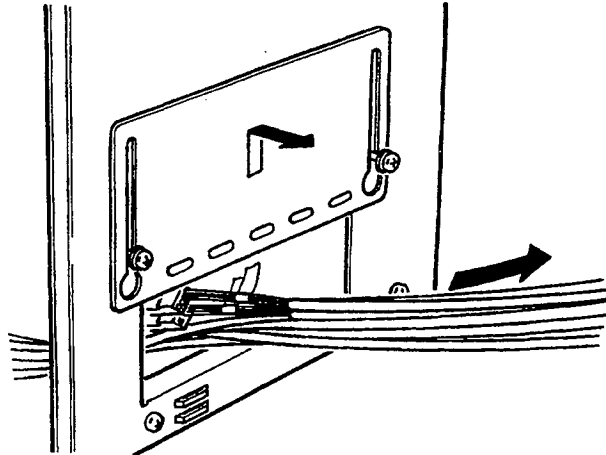

Figure 3-26 Removing the Slide Bracket on the Level II Basic KSU
4. Remove the slide bracket, on the Basic KSU, and pull the cable through the opening. Refer to Figure 3-26 - Removing the Slide Bracket on the Level II Basic KSU.